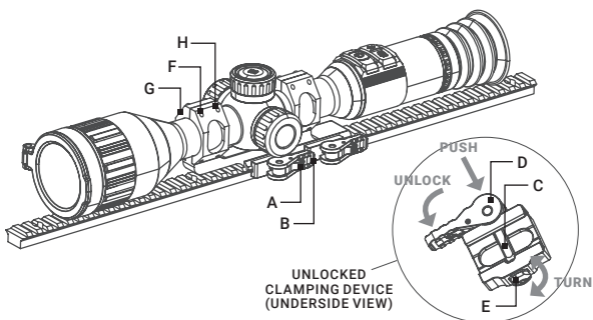

FIGURE 2-5. INSTALLATION WITH QUICK RELEASE MOUNT
You can mount the Adder scope on a Picatinny/Weaver rail of weapon using quick release (QR) mount (Figure 2-5).
1. Unlock the clamping devices of the QR mount by pushing down on the lever holders (A) and unlocking the levers (B).
2. Install the mount on the Picatinny/ Weaver rail so that the stops (C) slide into the transverse slots on the rail.
3. Affix the mount to the rail by locking the levers (B).